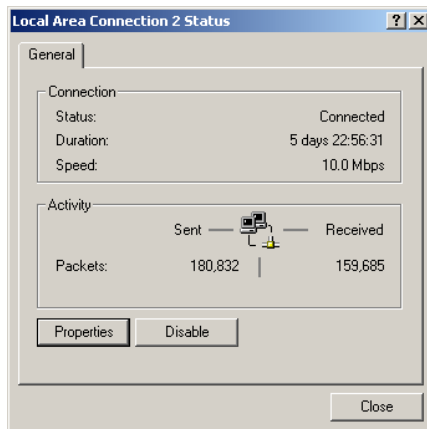

Figure 2-54 Local Area Connection 2 Status Dialog Box
3. To configure addresses for the private LAN connection (LAN 2), double-click the *Local Area Connection 2* icon. The *Local Area Connection 2 Status* dialog box displays (Figure 2-54 on page 2-61).